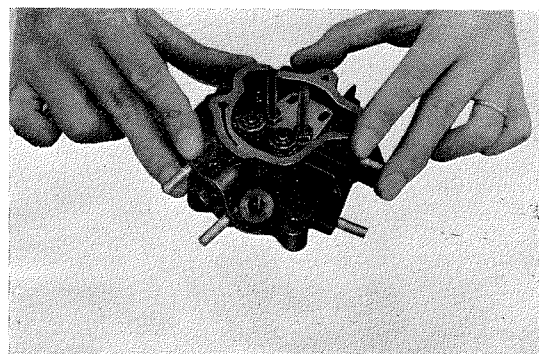

Fig. 27
3. To correct the warpage, fasten the sandpaper on the flat surface, place the cylinder head on it with fitting side down and polish by moving lightly by hand with circular motion until warpage is corrected. Use #200 sandpaper first and finish with #400 sandpaper. Inspect again with the bluing and wash the cylinder head carefully after sanding the fitting surface. (Fig. 27) Cylinder head combustion chamber height is 4.9 mm (0.19 in.)